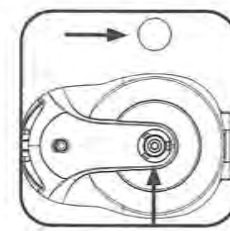

Figure 10
3.1: (LATCH ONLY OPTION): If installing Pürleve Handle on a LATCH door (no personal push button lock) simply use the ROUND accessory SNAP cover. (Fig. 10)